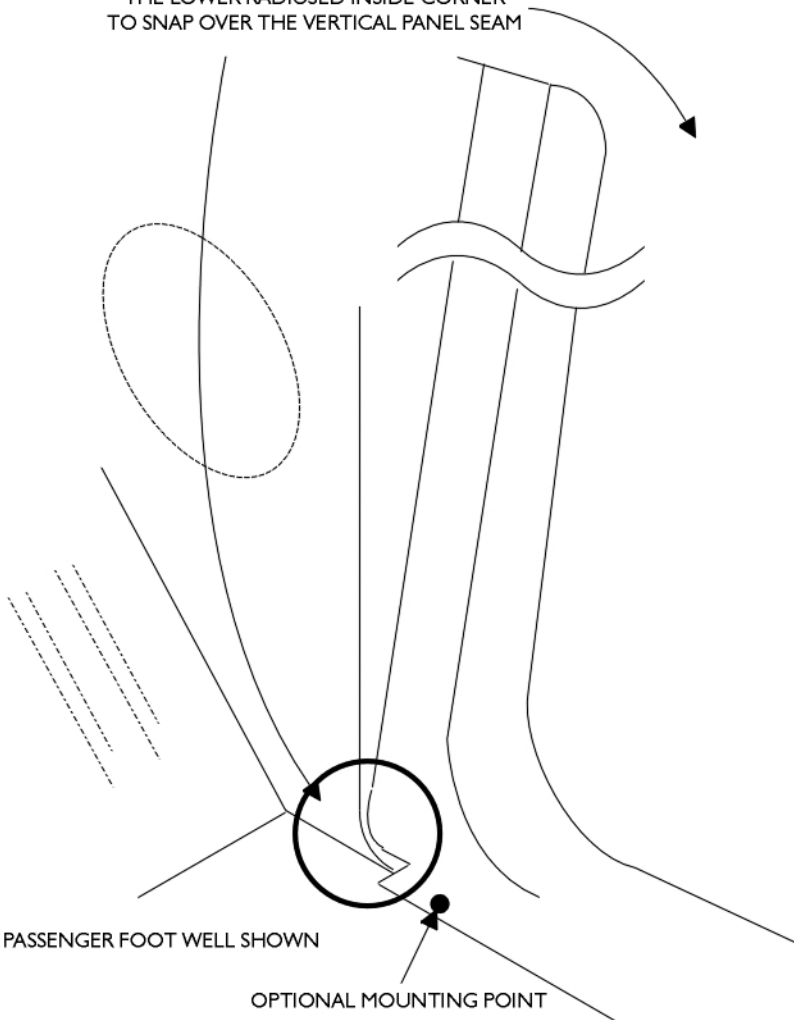

FIGURE 3
9. While holding the rear of the door insert in place, CAREFULLY pull the front top of the insert so the lower radiused inside corner will slip over the vertical kick panel seam. See Figure 3.
16. Install the optional #10 x 3/4" stainless steel pan head screw (provided) at the points marked as "**OPTIONAL MOUNT POINTS**" in Figures 3 and 6.